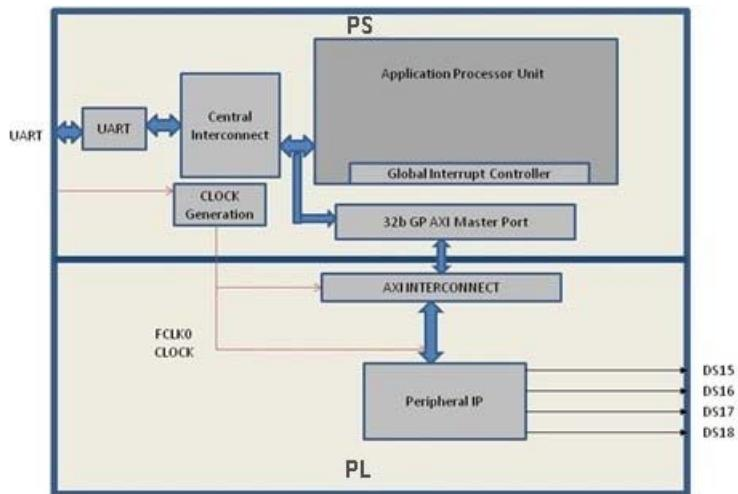

Figure 7-5: Block Diagram
Now, you will create a system for the ZC702 board by instantiating the peripheral IP as a slave in the Zynq SoC processing logic (PL) section. You will then connect it with the PS processor through the processing system (PS) general purpose (GP) master port. The block diagram for the system is shown in Figure 7-5.